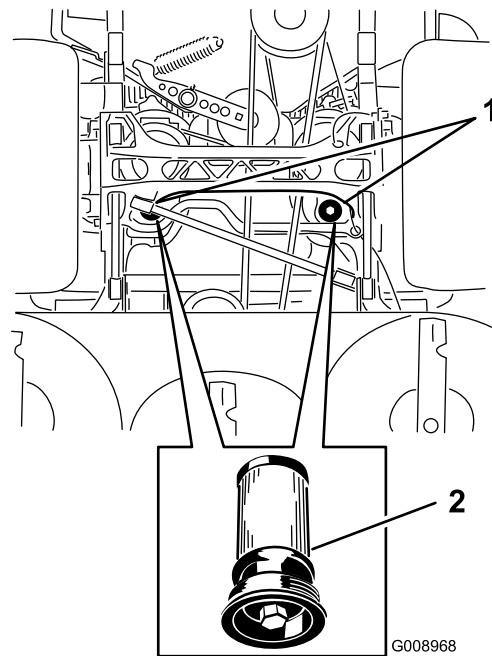

Figure 90
5. Place a drain pan under the filter, remove the old filter, and wipe the surface clean (Figure 90).
6. Apply a thin coat of hydraulic oil to the rubber gasket on the replacement filter (Figure 90).